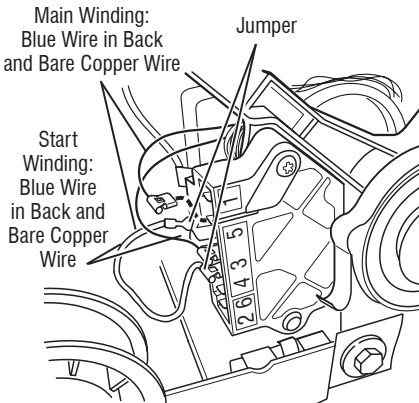

Figure 7 - Main and start winding measure points
9. Remove the bare copper wire terminal from pin 5 of black drive motor switch. See figure 7.
10. Using figure 7 and the strip circuit on page 22, check for the resistance values of the motor's Main and Start winding coils as shown in the following table.